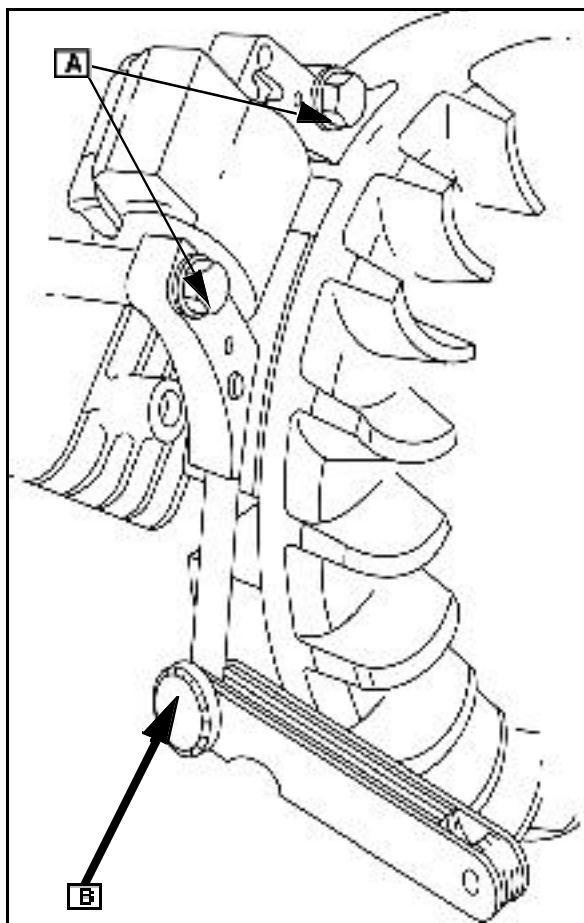

Fig. 11
4. Insert the proper thickness gauge (**B**) Fig. 11) between armature and flywheel.
5. Turn flywheel. Loosen screws and allow the magnets to pull armature against thickness gauge (**B**) Fig. 11).